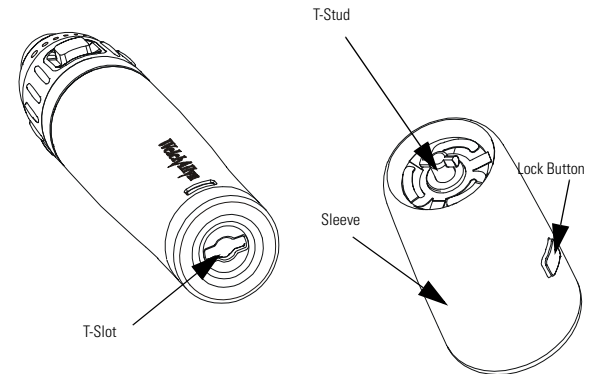

Figure 2
2. Insert T-stud on the AC Charging Module into the T-slot on the Battery Section (Figure 2). Rotate 90° in either direction. T-stud will lock into place.